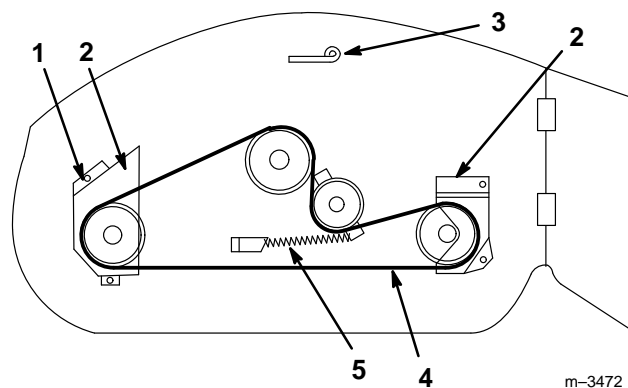

Figure 38
2. Remove the pulley cover mounting screws and pulley covers from the blade pulleys (Fig. 38).
3. Release the spring (Fig. 38).
4. Remove the belt from the pulleys (Fig. 38).
2. Attach the spring (Fig. 38).
3. Install the left and right pulley covers with the mounting screws (Fig. 38).